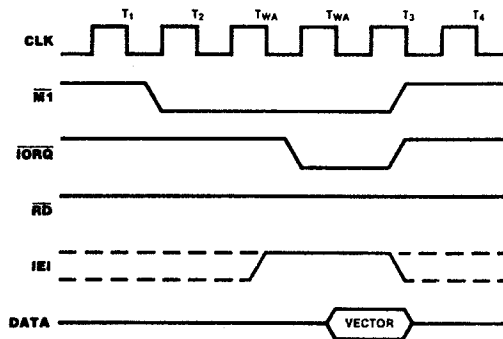

Figure 14. Interrupt Acknowledge Timing
**Interrupt Acknowledge Timing.** Figure 14 shows interrupt acknowledge timing. After an interrupt request, the Z-80 CPU sends an interrupt acknowledge ( $\overline{M1}$  and  $\overline{IORQ}$ ). All channels are inhibited from changing their interrupt request status when  $\overline{M1}$  is active—about two clock cycles earlier than  $\overline{IORQ}$ .  $\overline{RD}$  is High to distinguish this cycle from an instruction fetch.